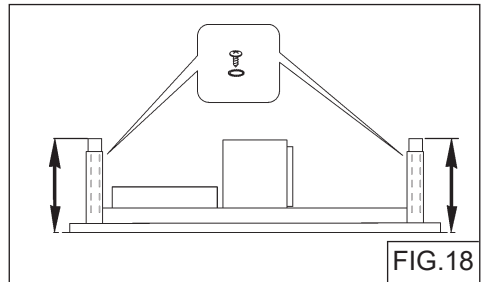

FIG.18
2. Adjust height of the telescoping support frame and secure with screws and washers. Fig.18.